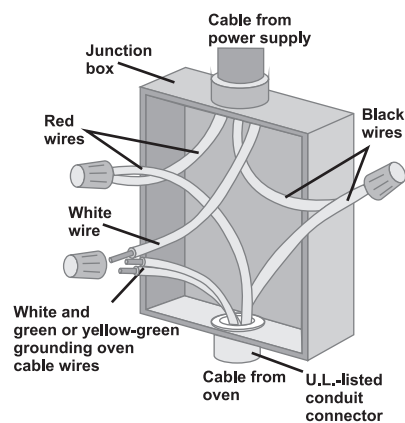

fig.1)
- Refer to figures 1 and 2 below, which represent the most common way of making the electrical connection.
Refer to **figure 1**, where local codes allow the connection of the ground wire from the appliance to the branch circuit neutral wire (white wire):